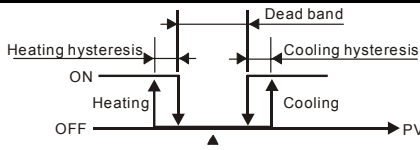

Figure 1. Output operation of ON/OFF control during dual loop output control
**dERd** : Dead Band, shown as the following figure 1, 2 and 3. This parameter